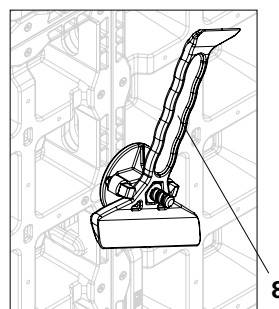
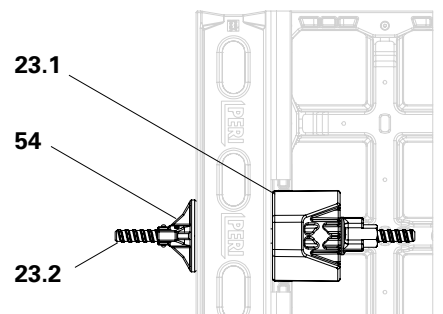

Fig. B5.15d
Fig. B5.15c
6. Tighten with the DW 15 wingnut counterplate (54) from the rear by hand or with the DUO cleaning device (8). (Fig. B5.15c + Fig. B5.15d)